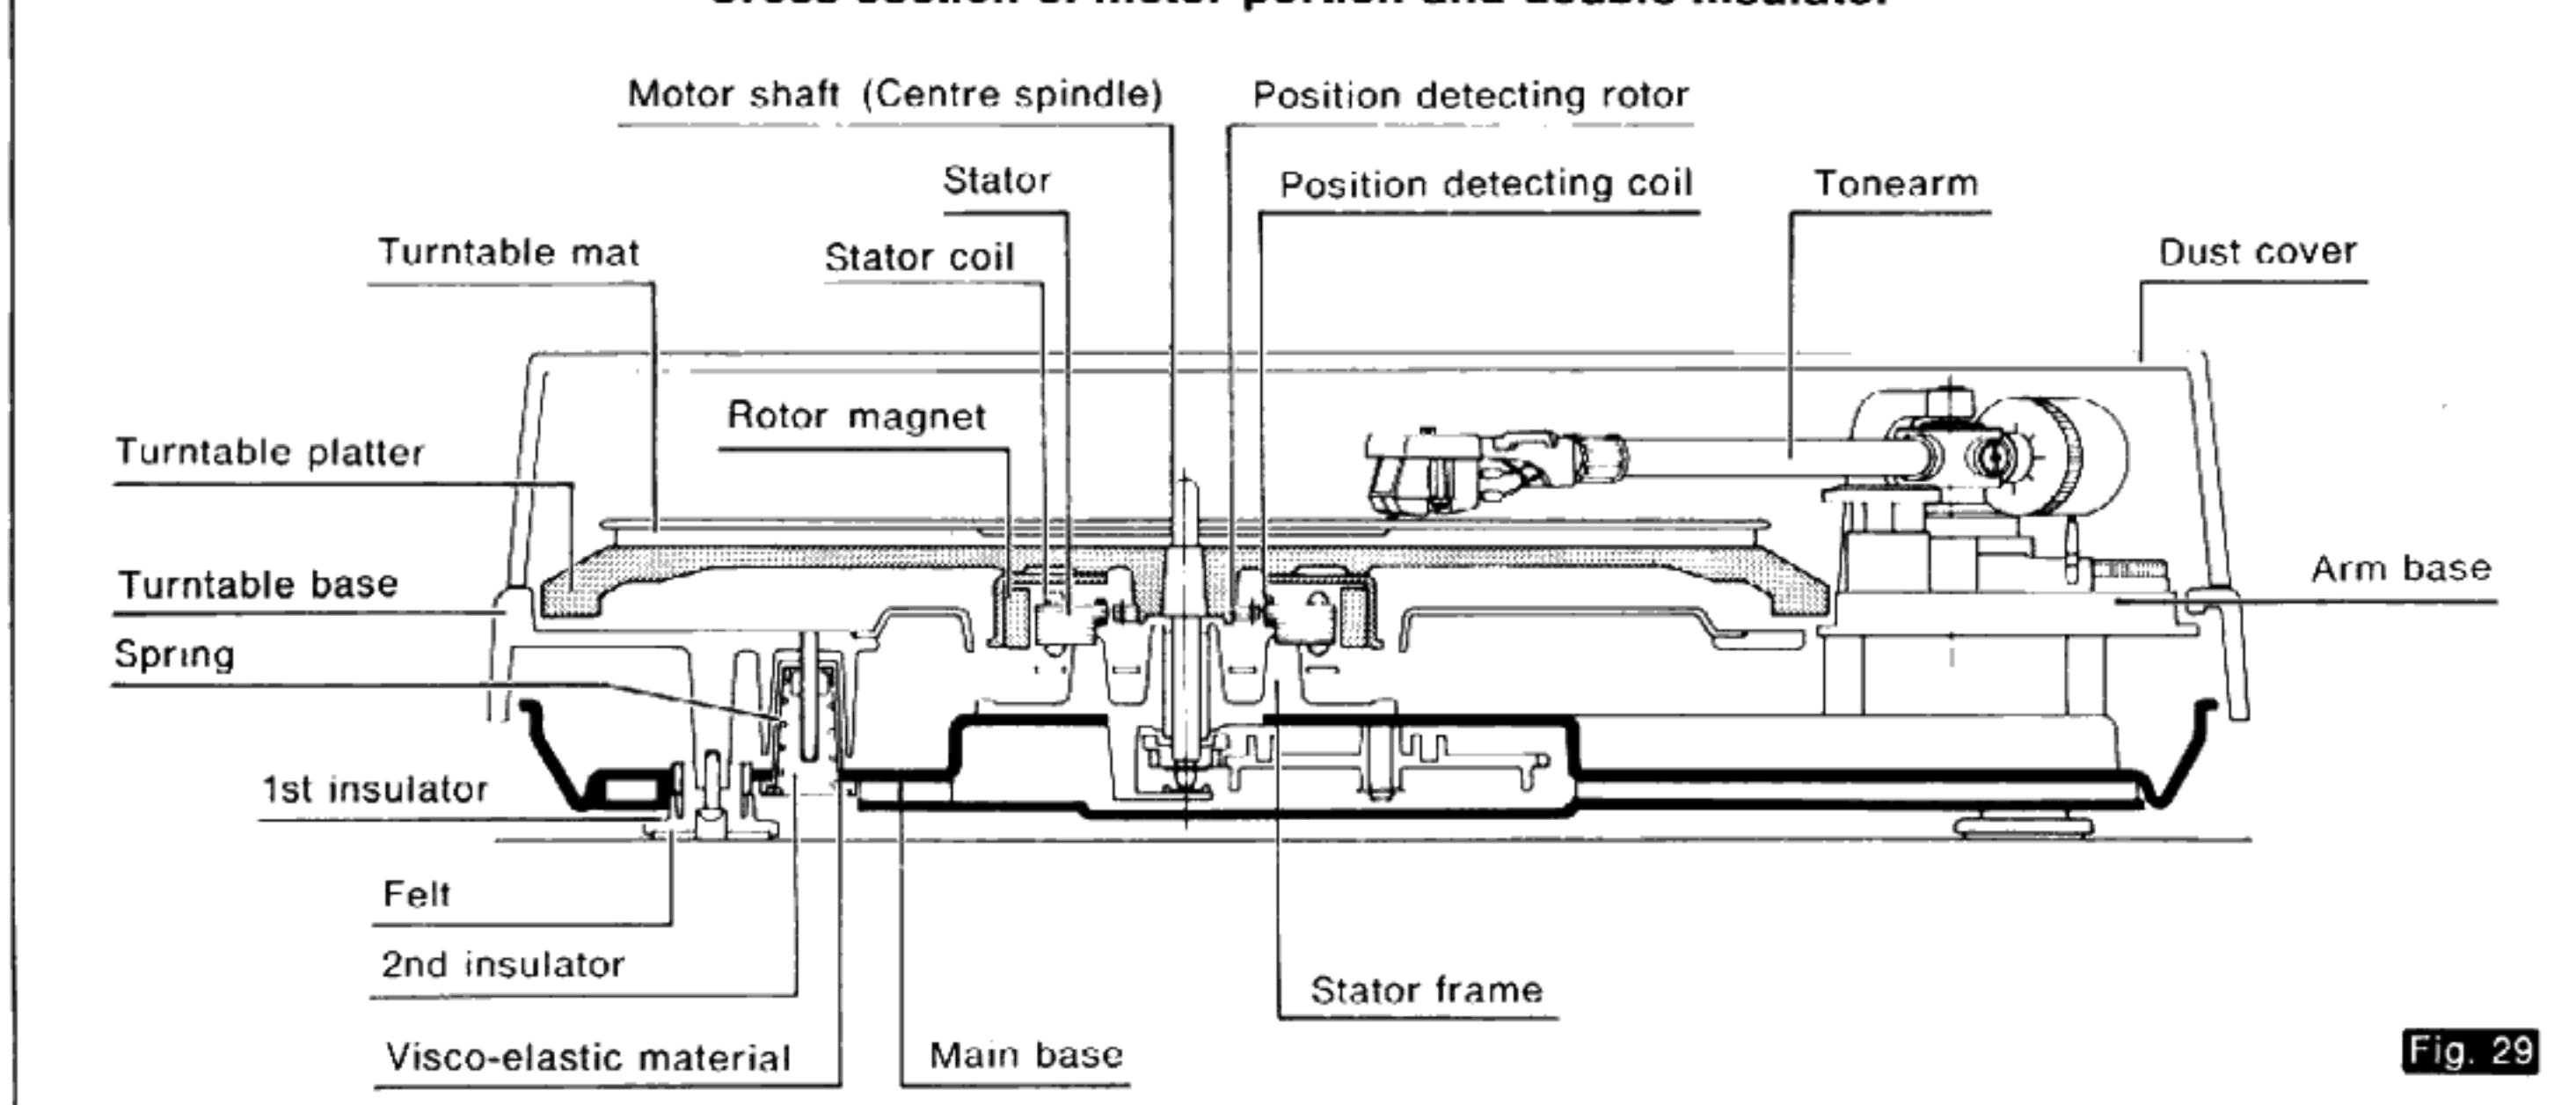

Fig. 29
- **The newly developed double-insulate vibration-damping unit, unique in Technics, was developed through high mass design placing particular emphasis on acoustic quality.** (See Fig. 29). The turntable platter and the tonearm are installed on the base and solidly girded through the integral construction of the main base and the bottom of the case, while the entire base is floating in stable equilibrium with respect to the main turntable base through insulators, composed of metallic springs and a viscoelastic material.
- **Motor construction peculiar to Technics in which the rotor of the motor is integrally connected to the turntable platter.** (See Fig. 29).